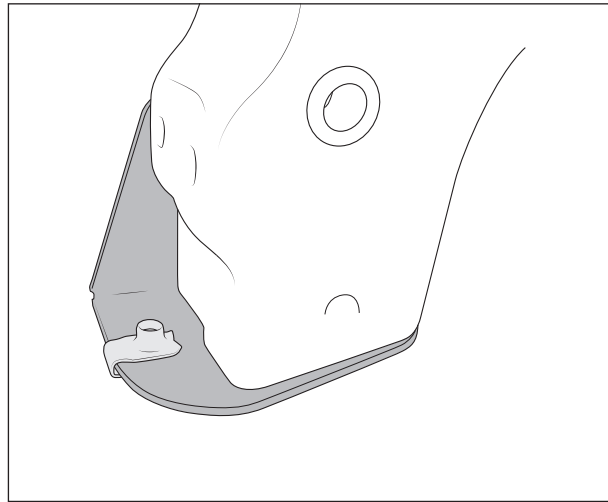

Figure 29
4. Install two provided M8 U-nuts to the bottom flange of the skidplate support brackets so that smooth surface on the bottom side. Insert until the threaded hole is centered within the hole in the stamping (fig. 29).